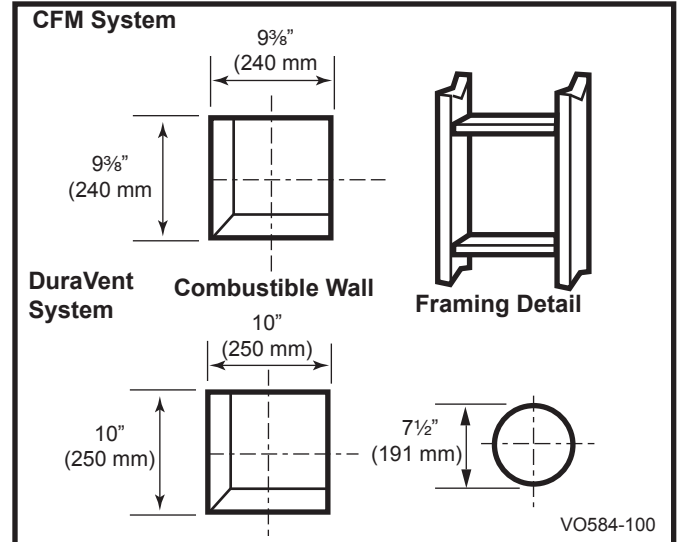

Fig. 22 Locate vent opening.
1. Locate the vent opening on the wall. Refer to Figure 5, Page 6, to determine the opening centerline. It may be necessary to first position the stove and measure to find the hole location. Depending on whether the wall is made of combustible materials, cut the opening to the size shown in Figure 22. Combustible wall openings must be framed as shown in Figure 22.